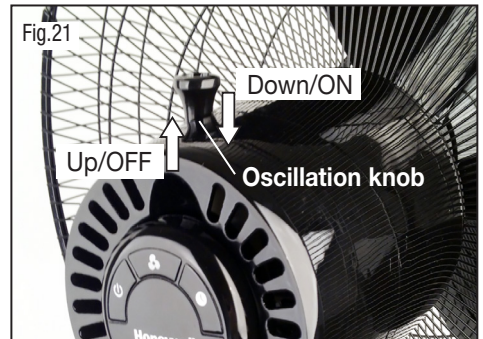

Fig.21
- To STOP fan oscillation, pull the Oscillation Knob UP. (Fig. 21).